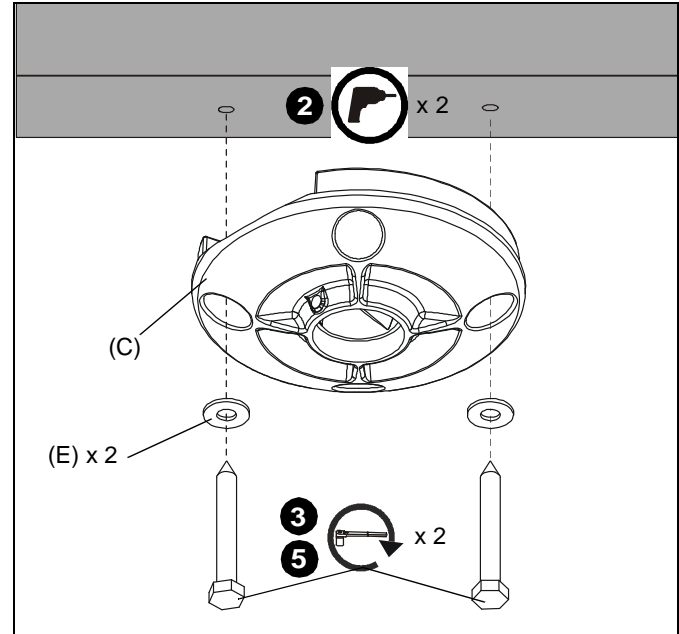

Figure 2
- Drill 1/4" diameter pilot holes into wood joist. (See Figure 2) Ensure pilot holes are straight.
- Using 9/16" socket wrench, loosely install two (minimum) Grade 2 (not included) 3/8" x 2-1/2" lag screws through 3/8" washers (E), ceiling plate (C), into wood joist (See Figure 2). Do not tighten plate (C) against ceiling at this time to accommodate cable installation.
- Tighten lag screws. (See Figure 2)